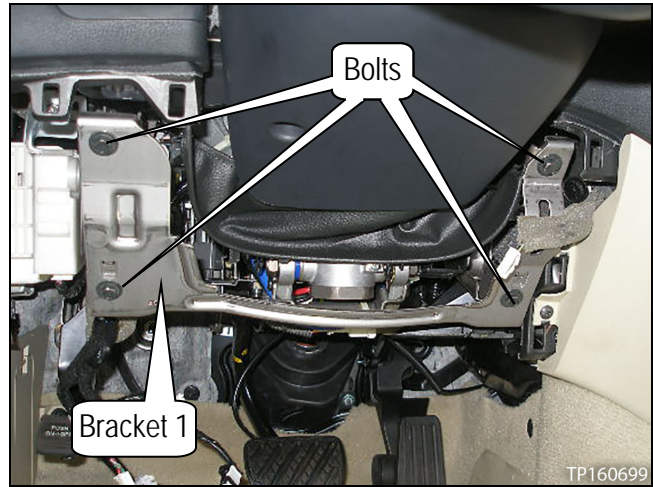

Figure 4
3. Remove the four (4) bolts, and then remove bracket 1 (see Figure 4).